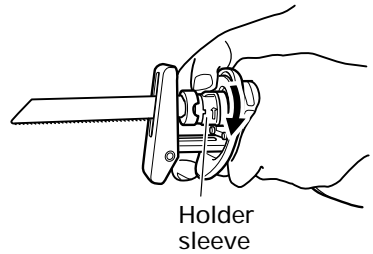

Fig. 9
- (4) Pull the holder sleeve back slightly in the direction of the arrow mark shown in Fig. 9 (in the direction opposite to the arrow marked on the holder sleeve). When you do this, the spring force will return the holder sleeve to the correct position automatically. There is no need to fasten the holder sleeve at this time. (Fig. 9)